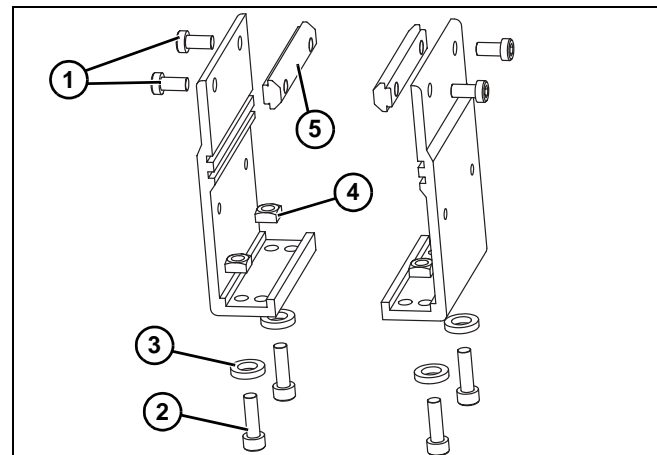
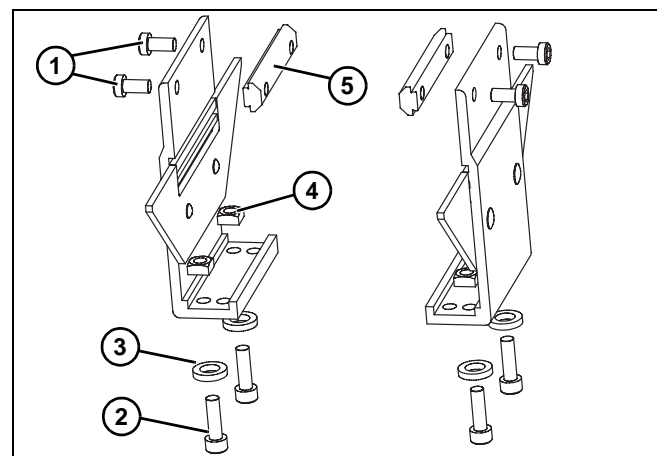
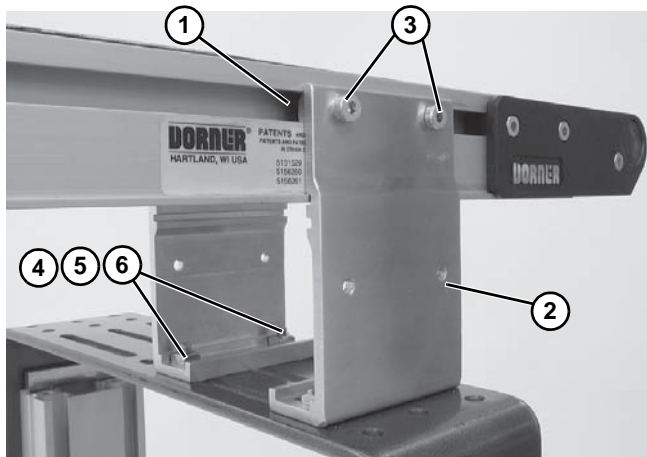

Figure 10
Figure 11
Figure 12
- Locate brackets. Exploded views shown in Figure 10 & Figure 11.
- Remove screws (**Figure 10, item 1 & 2**) & (**Figure 11, item 1 & 2**), washers (**Figure 10, item 3**), nuts (**Figure 10, item 4**) and T-bars (**Figure 10, item 5**) from brackets.
- Insert T-bars (**Figure 10, item 5**) & (**Figure 11, item 5**) into conveyor side slots (**Figure 12, item 1**). Fasten brackets (**Figure 12, item 2**) to conveyor with mounting screws (**Figure 12, item 3**).
- Fasten brackets to support stand with mounting screws (Figure 12, item 4), washers (Figure 12, item 5) and nuts (Figure 12, item 6).
- Tighten screws (Figure 12, item 3 & 4) to 60 in-lb (7 Nm).